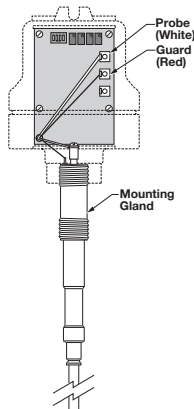

Figure 8
2. Tighten securely (ensure that the wrench is applied only to the mounting gland). Refer to Figure 8.
7. a. **Integral Electronics** – Attach white probe wire from probe terminal on circuit board to probe screw on top of the probe. Attach red Guard wire (if utilized). See Figure 8 on page 5.